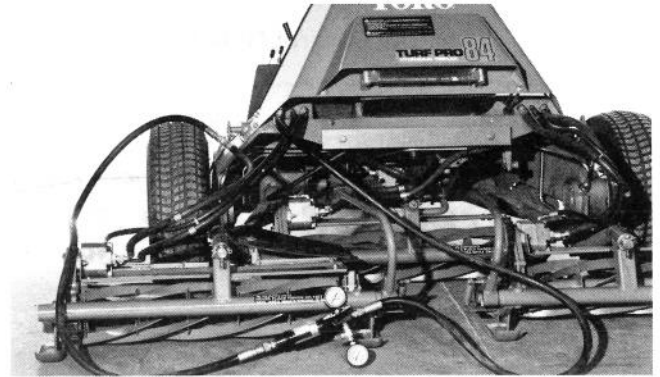

Figure 69
4. Position all lines and connected tester hoses such that rotating components will not make contact thereby resulting in hose damage (Fig. 69).